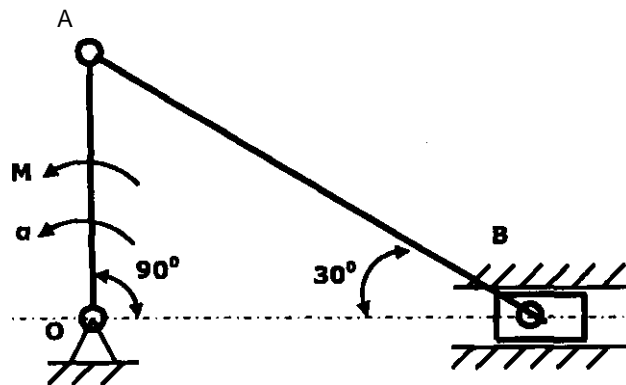

Fig.9
(b) A slider crank mechanism, shown in Fig.9 is instantaneously stationary. A moment M is applied on the crank OA and the crank starts with an angular acceleration $\alpha = 100 \text{ rad/s}^2$. The connecting rod is a uniform rod of 30 kg mass and 50 cm length. The crank radius is 25 cm. The mass of the slider is 20 kg. Determine (i) the acceleration of the slider and (ii) the direction and magnitude of the pin force at B. Neglect gravity and friction. (7)